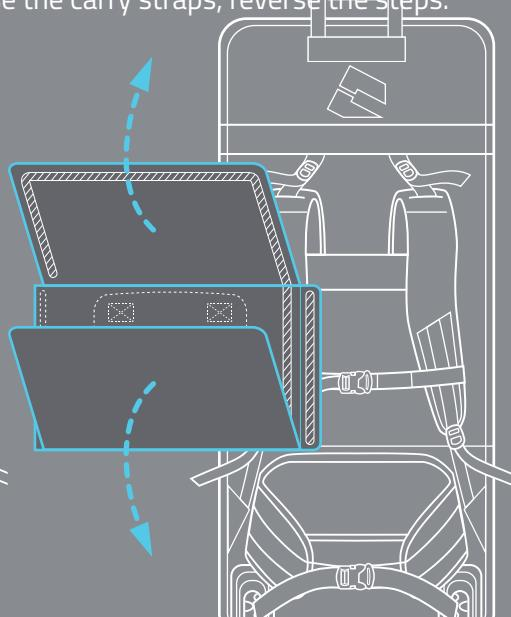

Figure 3.
- Unfold the strap cover to create a panel for the carry straps to be contained and fix using the velcro edging. **Figure 3**